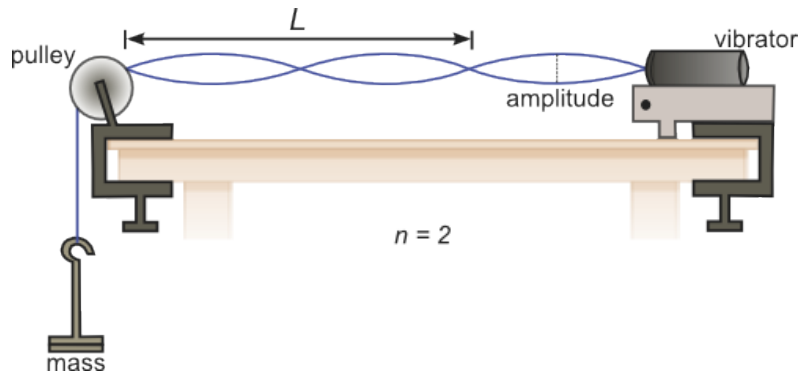

Figure 2
- i Since one end of the string is attached to the motor, the segment (oval-shaped part of the string that consists of a node-antinode-node) connected to the motor must be neglected, because the motion at the motor prevents a true node from forming at that end. Therefore, whenever  $n$  segments are counted the last one, the one next to the motor (vibrator), is neglected. When the length,  $L$ , of the standing wave pattern is measured, the neglected segment adjacent to the motor is not included. See Figure 2.